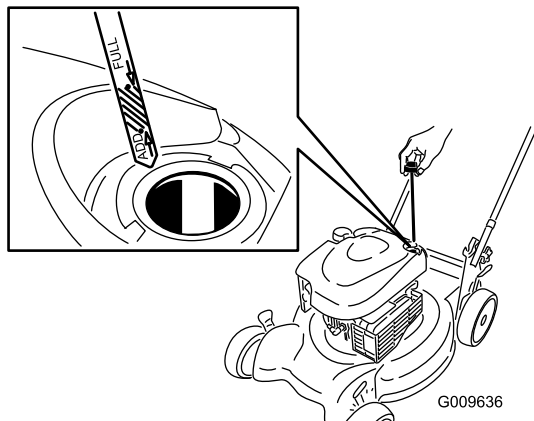

Figure 18
2. Remove the dipstick (Figure 18).
4. **Slowly** pour oil into the oil fill tube until the oil level reaches the **Full** line on the dipstick (Figure 18). **Do not overfill.** (Max. fill: 20 oz. (0.59 l), type: SAE 30 detergent oil with an API service classification of SF, SG, SH, SJ, SL, or higher.)